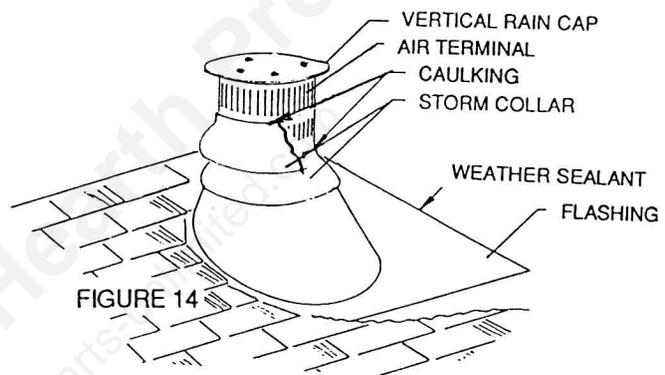

FIGURE 14
- Slip the roof flashing over the air terminal and fasten to the roof. Make weather tight by sealing with caulking (not supplied). Where possible cover the sides and top edges of the flashing with roofing material (Fig. 14).
- Run a heavy bead of caulking 2 inches above the flashing. Slide a storm collar down the air terminal to the caulking. Run a second heavy bead of caulking around this storm collar, ensuring that a weather tight seal between the air terminal and collar is achieved. Slide a second storm collar down and center it between the air intake and the air exhaust slots (Fig. 14). Secure with 3 screws and seal using a heavy bead of caulking. For vertical installations, a 12" air terminal cap is available and must be attached. See accessories, section 13.4.